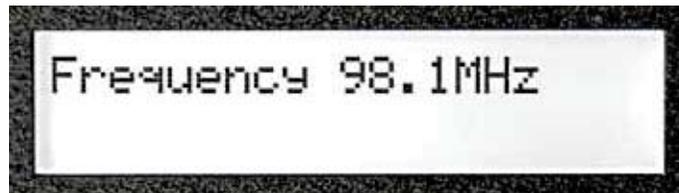

Figure 3-9. Press the FUNCTION Key to read Frequency
1. After pressing the FUNCTION key on the front of the unit, the operating frequency will appear on the LCD display (see Figure 3-9).